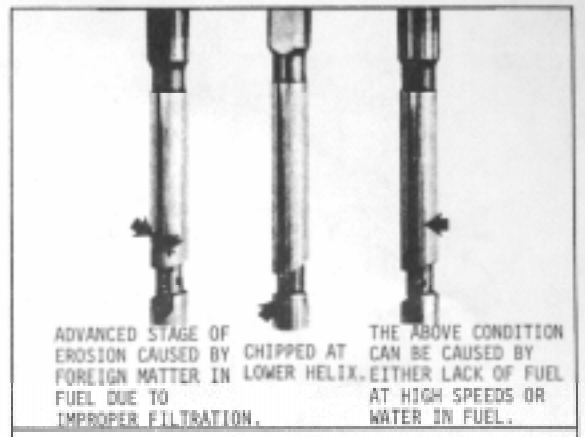
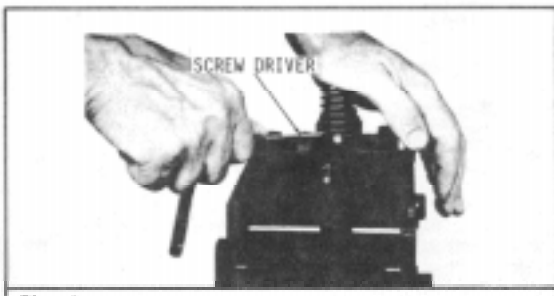

Fig. 10 Unusable Injector Plungers
Fig. 9 Removing Injector Follower Stop Pin
- (1) Support the injector, right side up, in holding fixture J 22396.
- (2) Compress the follower spring. Then raise the spring above the stop pin with a screwdriver and withdraw the pin (Fig. 9). Allow the spring to rise gradually.
- (3) Remove the injector from the holding fixture. Turn the injector upside down, to prevent the entry of dirt, and catch the spring and plunger as they drop out.
- (4) Inspect the plunger. If the plunger is chipped (Fig. 10), replace the plunger and bushing assembly.
- (5) Reinstall the plunger, follower and spring.